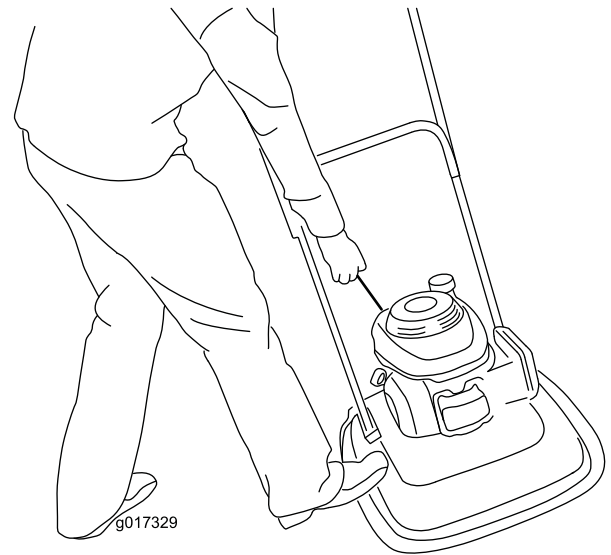

Figure 14
4. Place your foot on the deck and tilt the machine toward you (Figure 14).